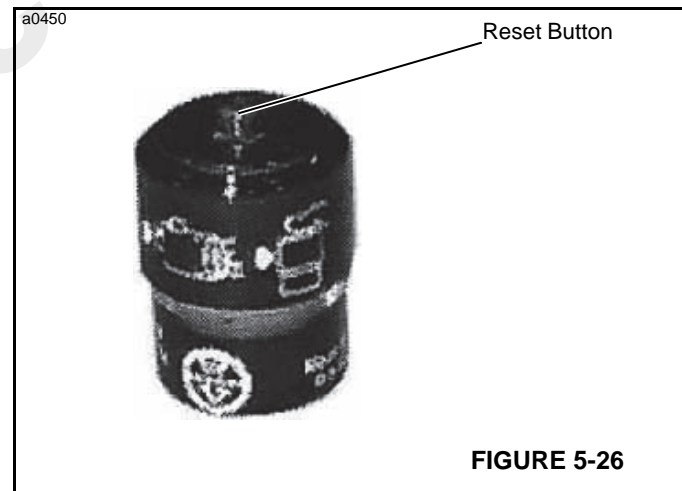

FIGURE 5-26
4. Reset the air cleaner restriction indicator by pushing in the reset button (Figure 5-26).